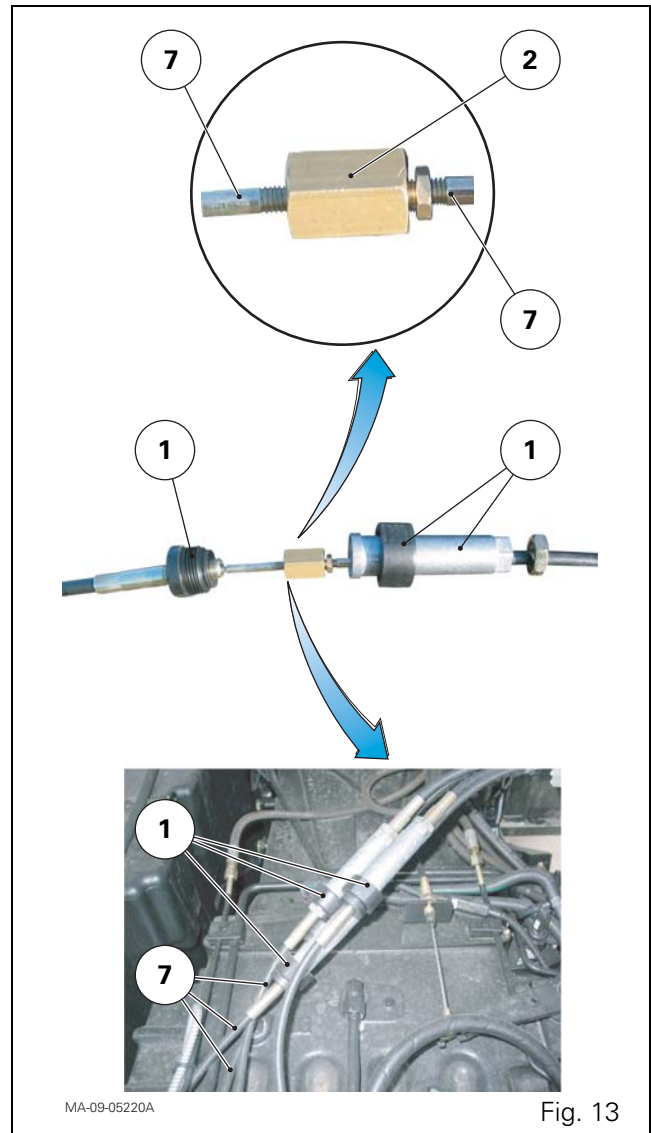

Fig. 13
- the LS hose (9);
- the lift ram supply pipes (16);
- the high pressure pipe (30).
17. Reconnect the control cables (7) of each spool valve component, leaving an identical threaded length on either side of the link (2) (Fig. 13). Couple the sleeves (1) (Fig. 13). Adjust the control cables (see § F).